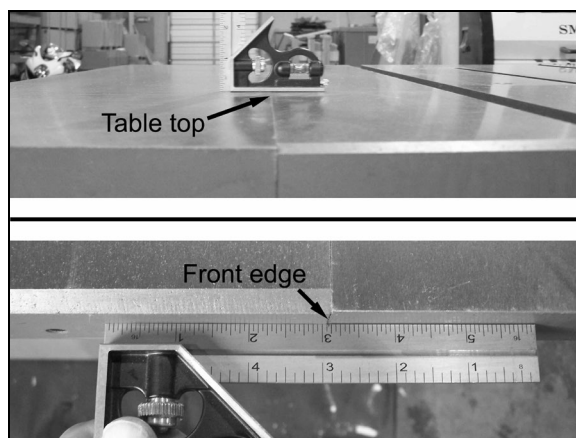

Figure 2
2. Make sure the mating surfaces are flush at both the top of the table and the front edge of the table as shown in figure 2. If the bolts have not been completely tightened, this can be easily accomplished using a rubber coated mallet or dead blow.